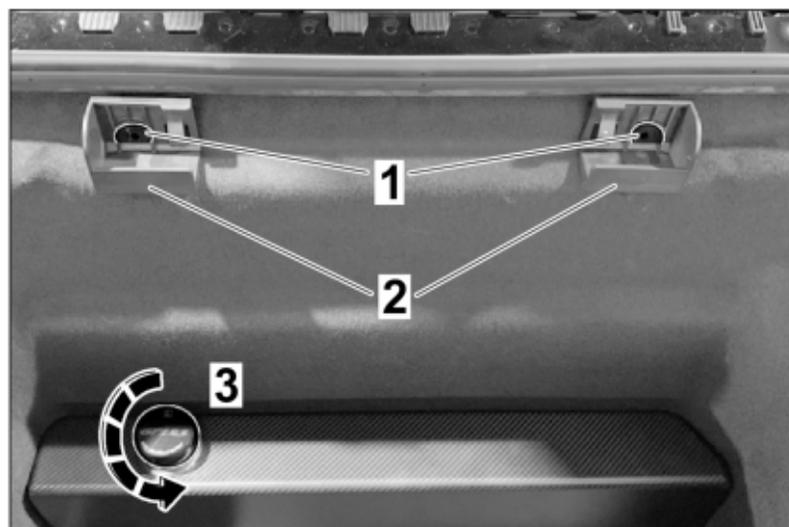

Figure 75
10.1.2 Remove stopper on the warning triangle holder (⇒ Figure 75 -1- left / right) and remove holder (⇒ Figure 75 -2-).
- 10.1.3 Remove "GT2 RS" cap (⇒ *Figure 75 -3-*) on the water tank and remove strainer.